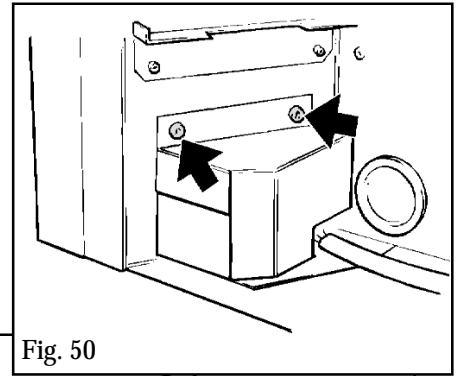

Fig. 50
- Detach the control unit from the fire box (left hand side) flange by removing two screws (see figure 50). Carefully withdraw the unit.